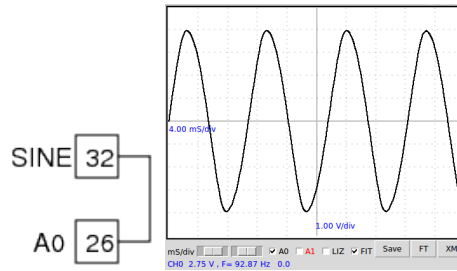

Figure 2.5: AC voltage waveform from SINE
- The waveform is shown in the figure 2.5. Enable the 'FIT' option to calculate the amplitude and frequency by fitting the data with the equation  $V = V_0 \sin(2\pi ft + \theta)$ , where  $V_0$  is the amplitude and  $f$  is the frequency.